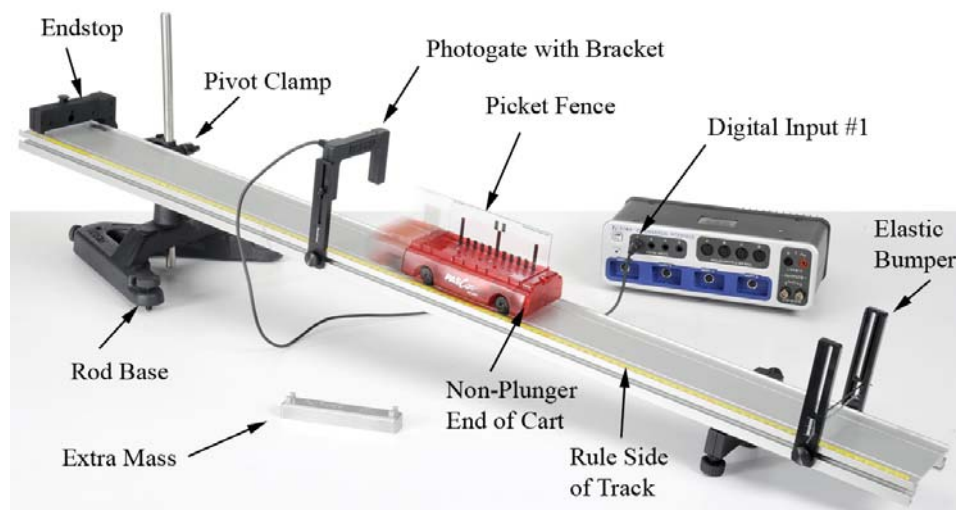

Figure 1: The cart rolls freely down the incline.
1. Set up the track as shown in Figure 1 using the large rod base and the 45 cm rod. The square nut on the Pivot Clamp slides into the T-Slot on the track, and allows the track to be secured at various angles.